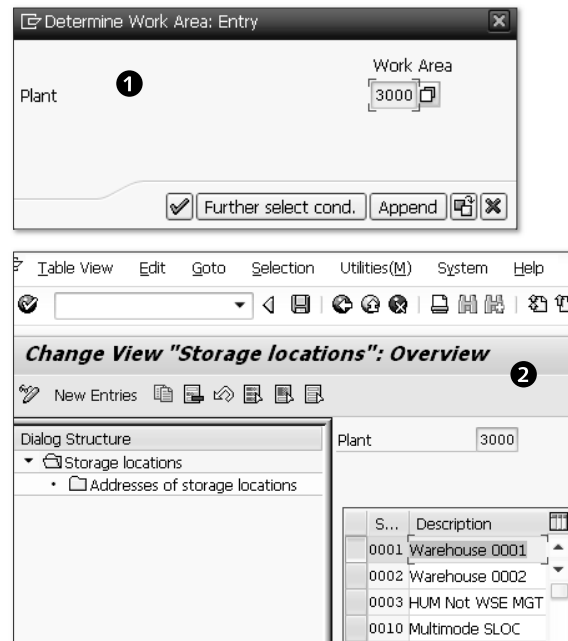

Figure 2.6 Storage Location
To create a new storage location or to make changes to the existing storage location, follow the configuration (Transaction SPRO) menu path, ENTERPRISE STRUCTURE • DEFINITION • MATERIALS MANAGEMENT • MAINTAIN STORAGE LOCATION, or use Transaction OX09. Figure 2.6 shows the PLANT popup screen ❶, in which you enter the plant value as "3000". You add both the storage location code with a DESCRIPTION ❷ and the complete address.